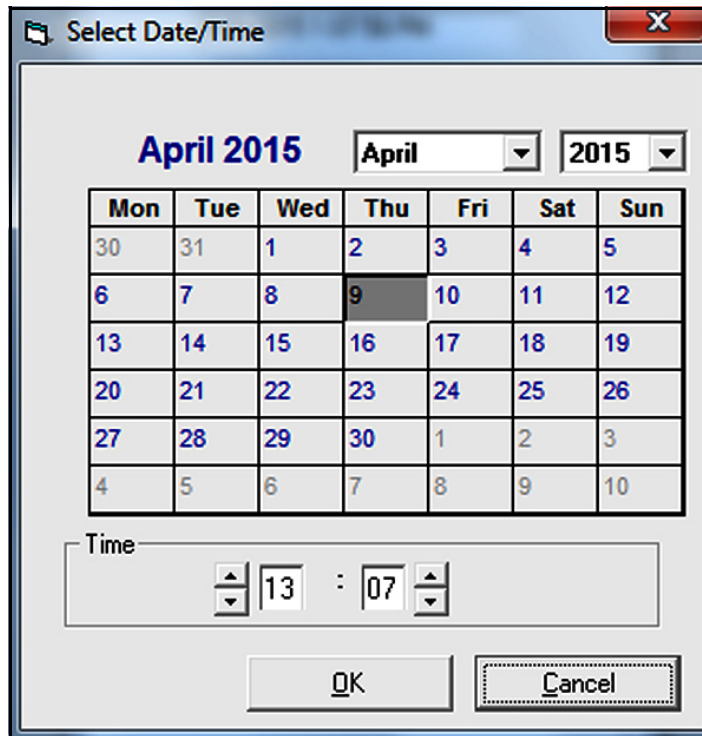

Figure 57: The Date/Time Dialog Box
- Click [Set] button to open the dialog box shown in *Figure 57* below. Set the desired date and time as indicated, and click [OK] button.